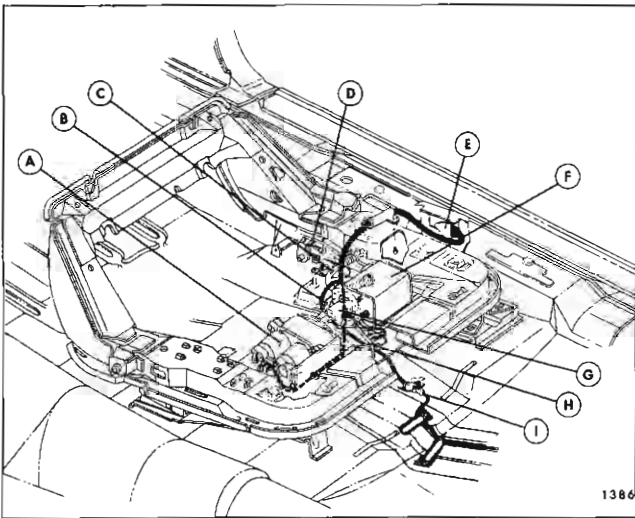

Fig. 1H17—Bucket Seat Wiring Installation Four-Way Power Adjusters
2. Turn back floor carpeting sufficiently to expose seat adjuster-to-floor pan rear attaching nuts (Fig. 1H16).